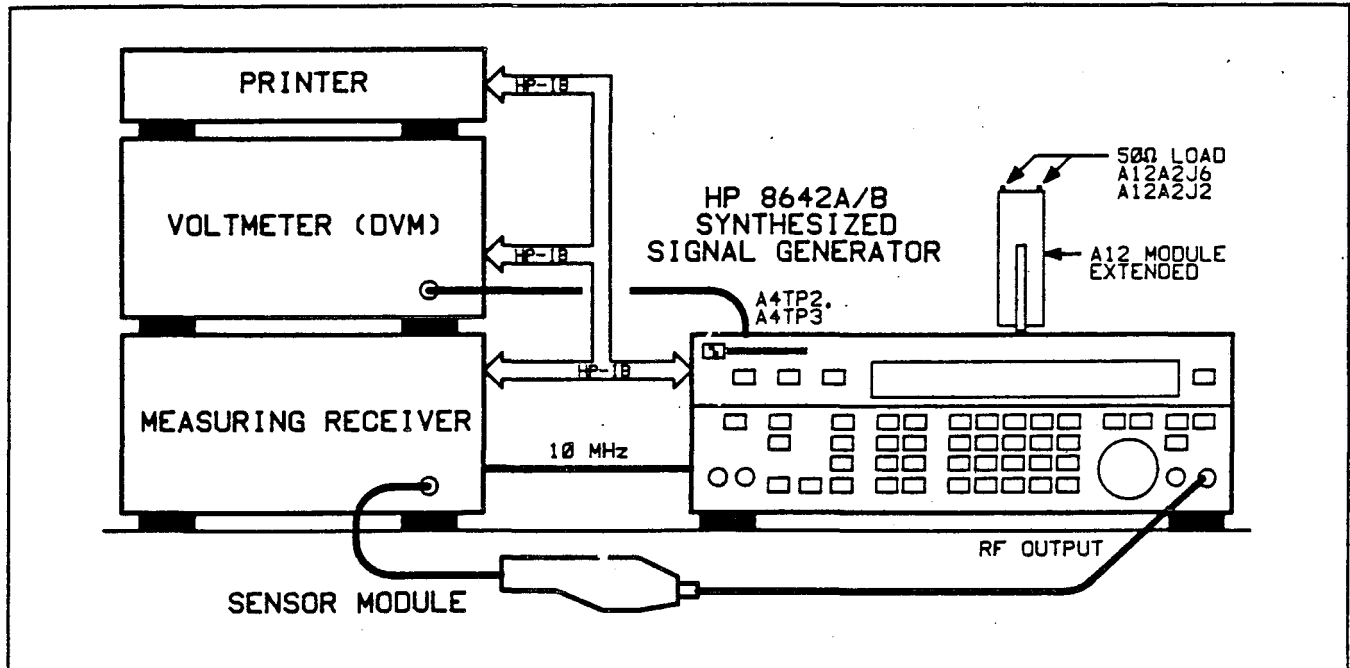

Figure 80-12. Set-up 2
11. When "WAITING FOR SET-UP 2 .V25" appears: (refer to Figure 80-12)